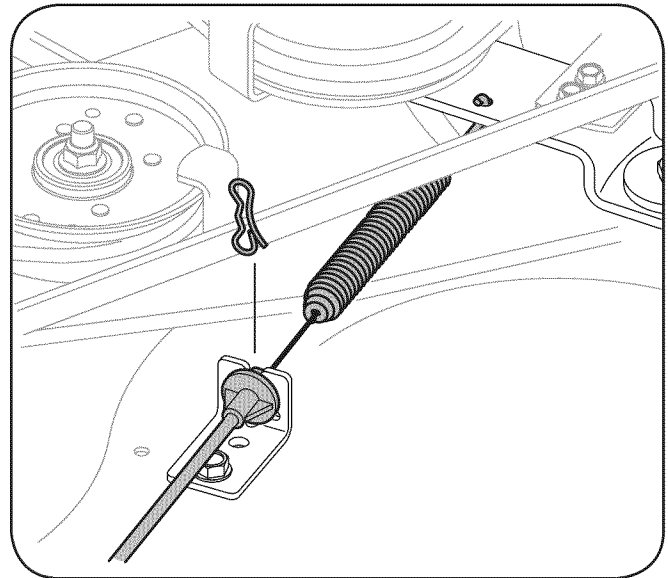

Figure 7-6
9. Carefully remove the PTO cable from the rear of the cutting deck by removing the hair pin clip which secures it. Remove the spring from the deck idler bracket. See Figure 7-6.